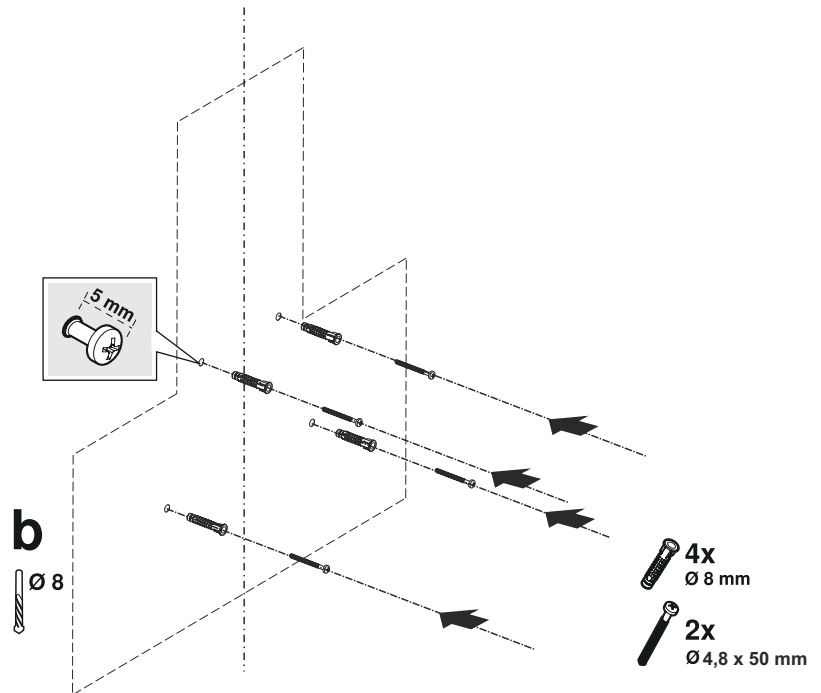

Fig. 12
1. ➤ Draw a mid location line from the ceiling perpendicular to the lower edge of the hood (Fig. 12).
2. ➤ To drill the suspension holes of the flue, place the mounting template on the surface where the appliance will be mounted on and mark the mounting holes (Fig. 12/b).
3. ➤ Drill the suspension holes with Ø8mm drill and place the dowels (Fig. 12/b).
2 piece 4,9x950 suspension screw with a clearance of 5 mm between the screw head and the wall (Fig. 12/b).